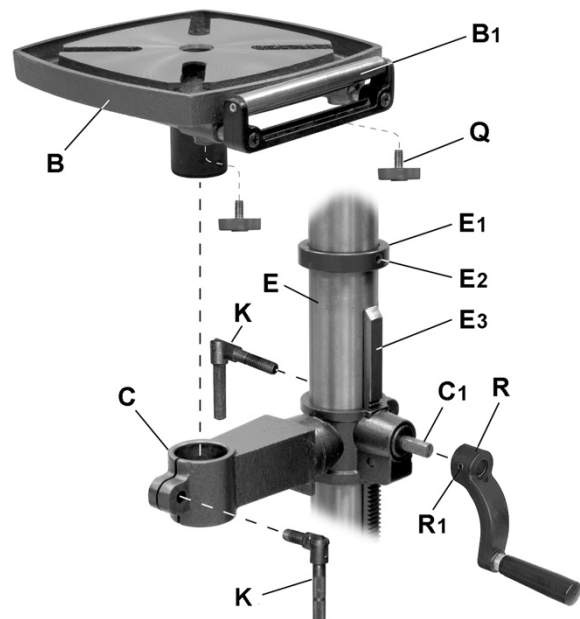

Figure 4
Refer to Figure 4:
1. Remove *rack ring* (E₁) and *rack* (E₃) from *column* (E). *Note which end of the rack is up. It must be reinstalled later with the same side up.*
2. Place *rack* (E₃) inside *table support* (C) such that the teeth of the *rack* (E₃) mesh with the pinion gear on the end of the table crank handle *shaft* (C₁).
3. Slide table arm/support assembly (C) together with the *rack* (E₃) onto the *column* (E) as shown.
4. Place *rack ring* (E₁) onto *column* (E), sliding it down so it rests against *rack* (E₃) as shown, and tighten *setscrew* (E₂) with a 3mm hex wrench (provided).
5. Place *table* (B) onto *table arm* (C), positioning it as shown in Figure 4. Secure table with *lock handle* (K).
6. Secure table extension (B₁) with two *table extension lock knobs* (Q).